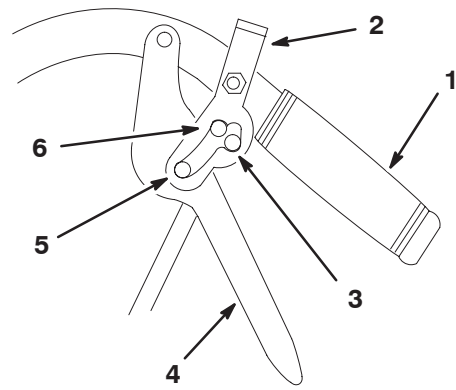

Figure 21
Pull the parking brake lever rearward (Fig. 21).
- Place thumbs on the upper part of of locks and move them back (Fig. 21).
- Place thumbs on the upper part of of locks and move them forward until in forward slot (Fig. 21).